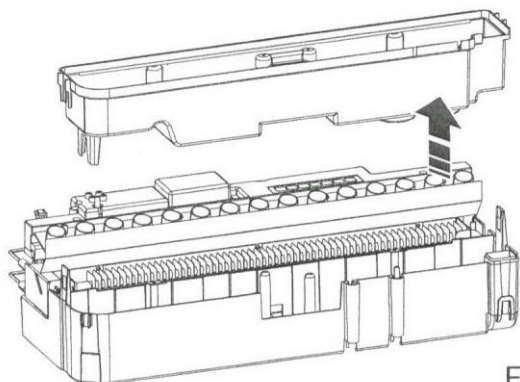

Fig 26
6. Gently lift up the sump (Fig. 26), taking care to keep it level so as not to spill any water. Sit the sump in the sink.